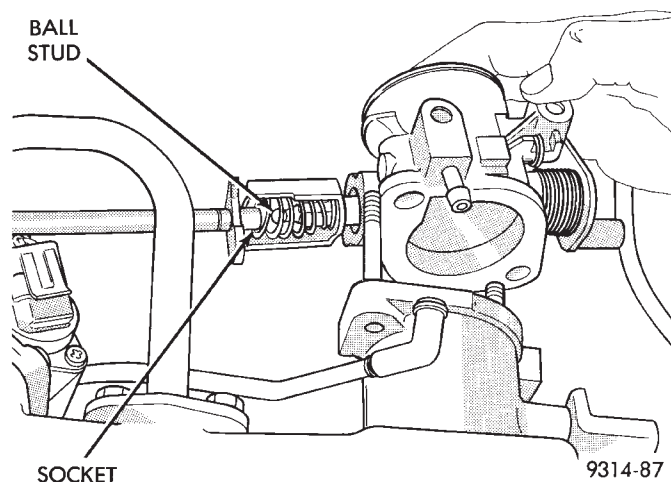

Fig. 66 Left Throttle Body Removal/Installation
- (5) Disconnect purge hose from throttle body.
- (6) Remove throttle body mounting nuts.
- (7) The end throttle body shaft has a ball stud that fits into a socket in the synchronization shaft (Fig. 66).
- (8) Slide throttle body back off of mounting studs. Separate the throttle body from the synchronization shaft. Remove throttle body.
- (9) Clean gasket from mating surfaces.